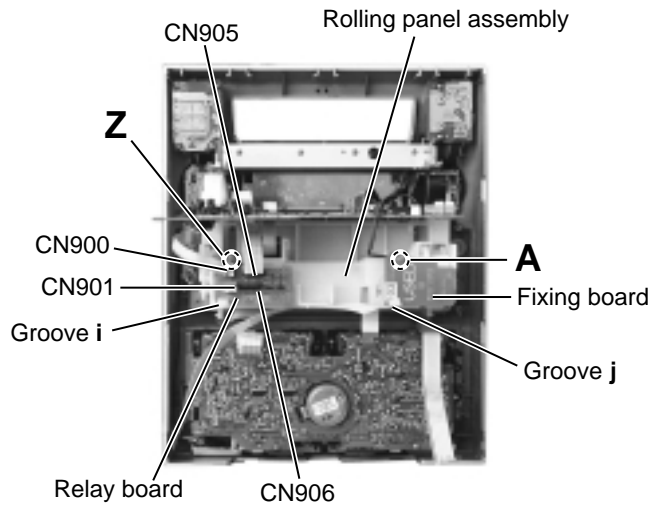

Fig.21
1. Remove the relay board and fixing board (Refer to Fig.21).